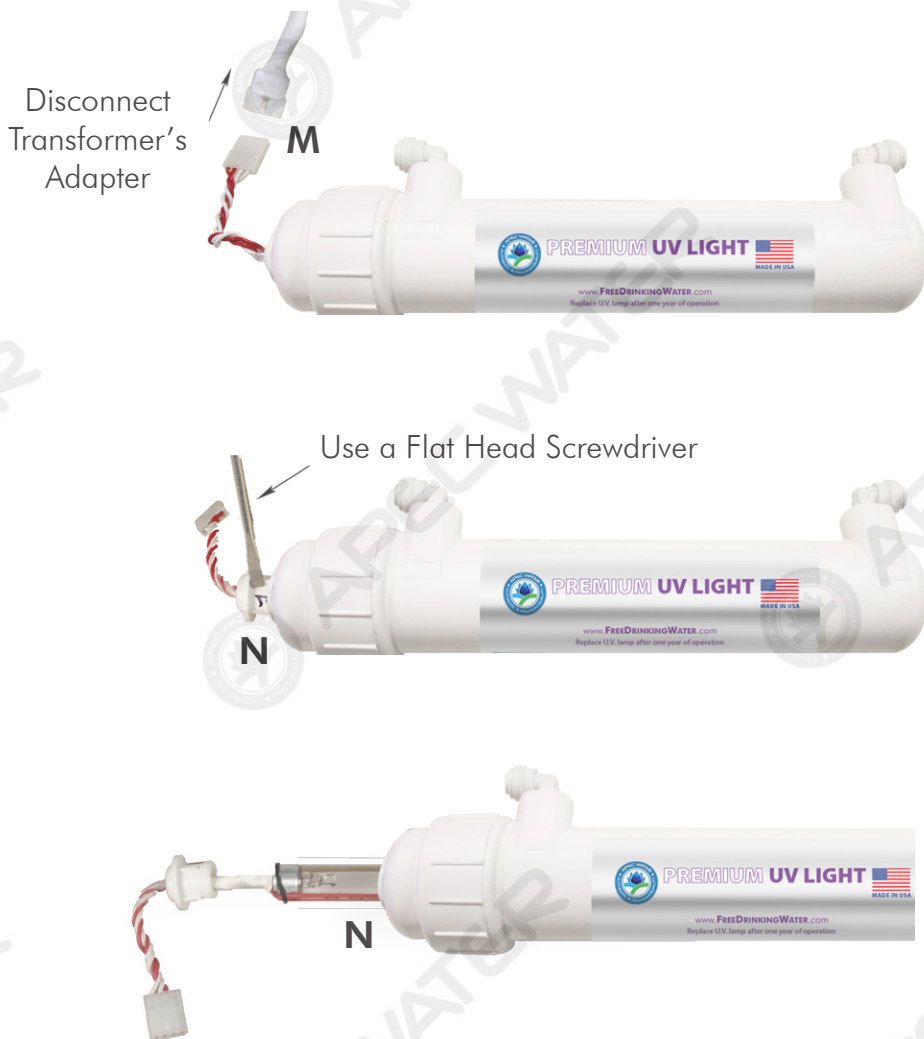

Fig. 14D
- 3) Disconnect the Transformer's adapter and UV light's adapter at **point M** (Use **Fig. 14D** for reference).